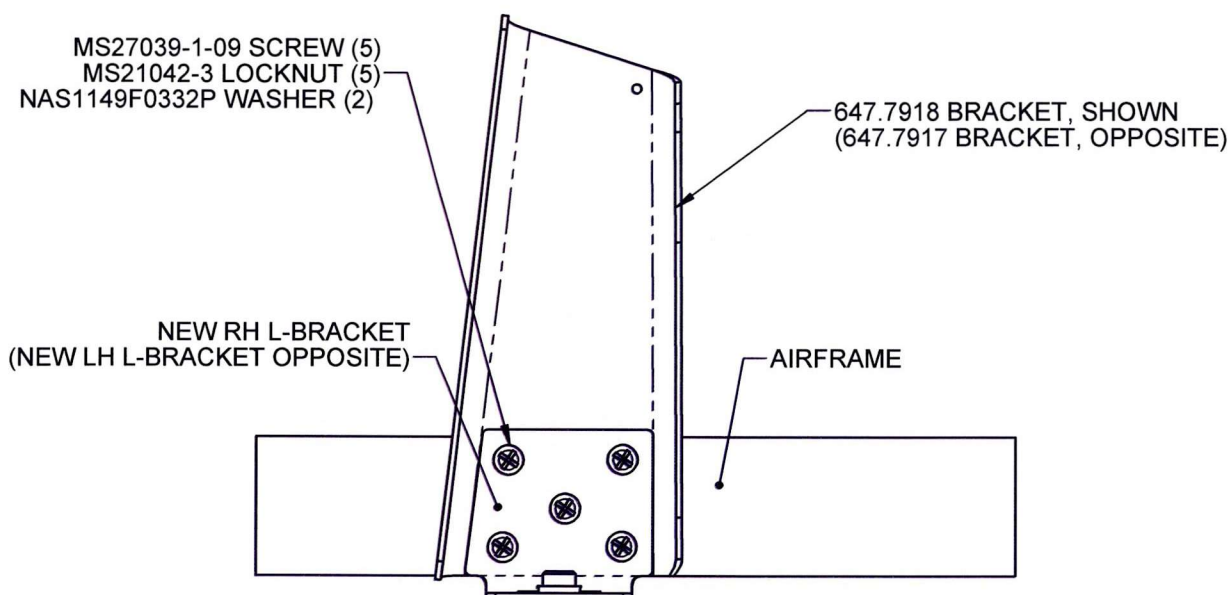

FIGURE 4: L-BRACKET ASSEMBLY
- 2.3 Locate Brackets 647.7917/.7918 per Figure 4 of II135-1 and locate the newly fabricated L-Brackets to match those removed in step 2.1.
- 2.4 Transfer drill qty (3)x existing holes from the airframe to the newly fabricated L-Brackets and 647.7917/.7918 Brackets. Drill qty (2)x additional holes on the newly fabricated L-Brackets and 647.7917/.7918 Brackets for a total of 5 mounting holes on each set of brackets as shown in Figure 4. Transfer the location of the nutplate hole to the replacement L-bracket.
- 2.8 Attach replacement bracket to the airframe using F/N 9 P/N MS27039-1-09 Screws, F/N 97 P/N MS21042-3 Locknuts, and F/N 101 NAS1149F0332P Washers with 647.7917/647.7918 Bracket per Figure 4.